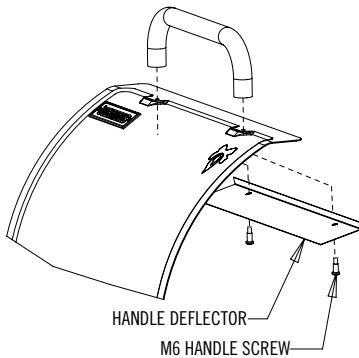

FIG. 4
1. Install the handle as shown in figure 4.